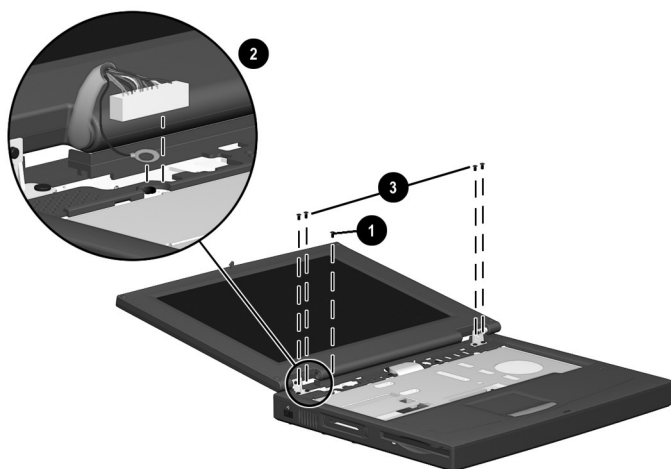

Figure 5-10: Removing the Display
8. Remove the M2.5 × 4.5 screw securing the display ground cable to the base enclosure ❶ (Figure 5-10).
9. Disconnect the display video cable ❷.
10. Remove the four M2.5 × 7 screws securing the display hinges to the base enclosure ❸.